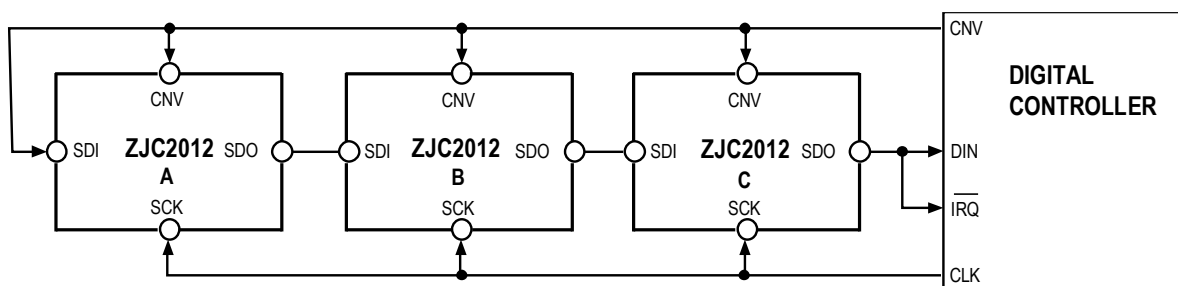
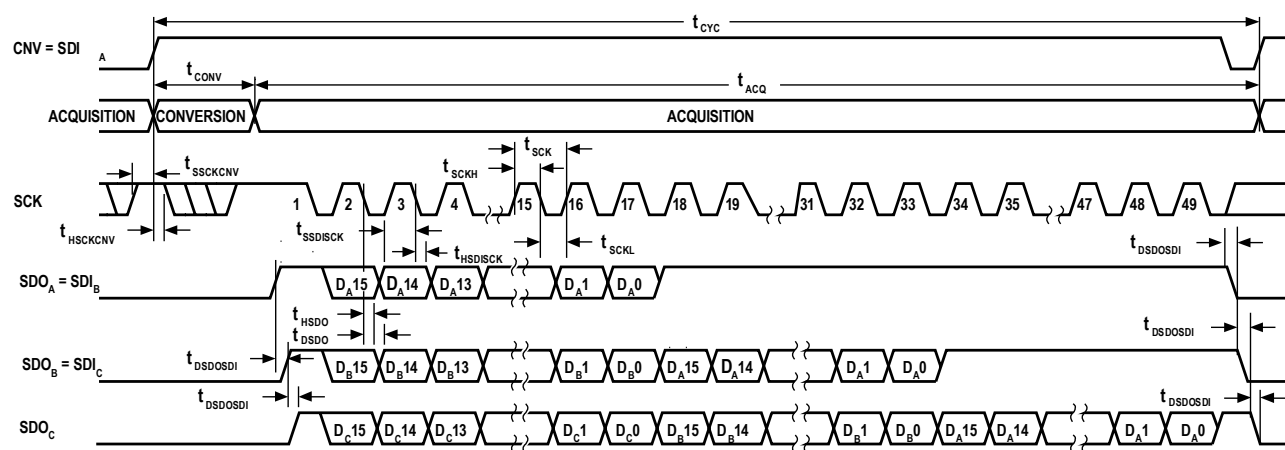

Figure 47. Chain Mode (with Busy Indication) Connection Diagram
Figure 48. Chain Mode (with Busy Indication) Serial Interface Timing
- In chain mode, SCK is high during the rising edge of CNV (see Figure 48).
An example using three ZJC2012s is shown in Figure 47, and the corresponding timing is shown in Figure 48.
When SDI and CNV are low, SDO goes low. With SCK high, a rising edge on CNV initiates a conversion, selects chain mode, and enables the busy indicator feature. In this mode, CNV remains high during the conversion phase and subsequent data readback. After all the ADCs in the chain have completed their conversions, drive the SDO pin of the ADC closest to the digital host (see Figure 47). This transition on SDO can be used as a busy indicator to trigger data readback. ZJC2012 then enters the acquisition phase and is on stand-by. The remaining data bits stored in the internal shift register are clocked out MSB first on subsequent SCK falling edges. For each ADC, SDI feeds the input of the internal shift register and is clocked out by SCK falling edge. Each ADC in the chain outputs data MSB first, and $16 \times N + 1$ clocks are required to read back N ADCs.